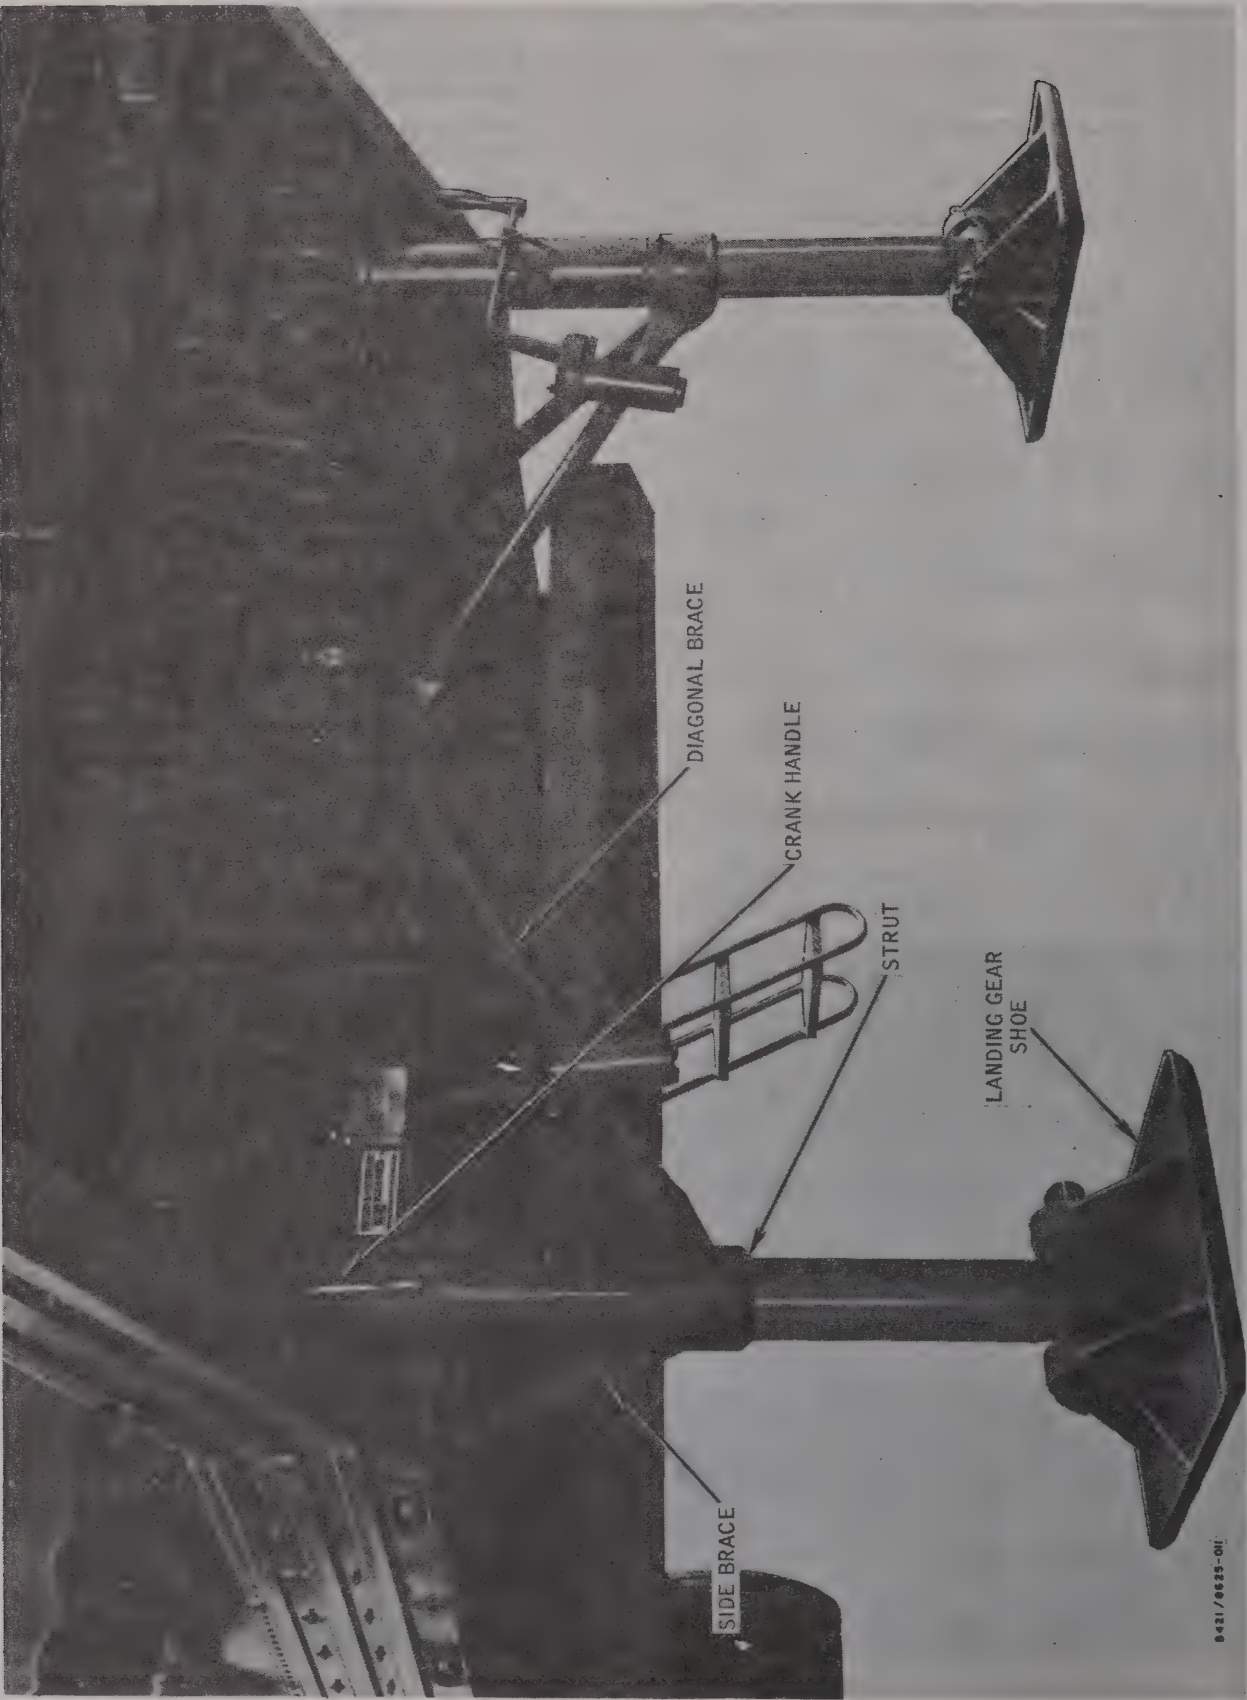
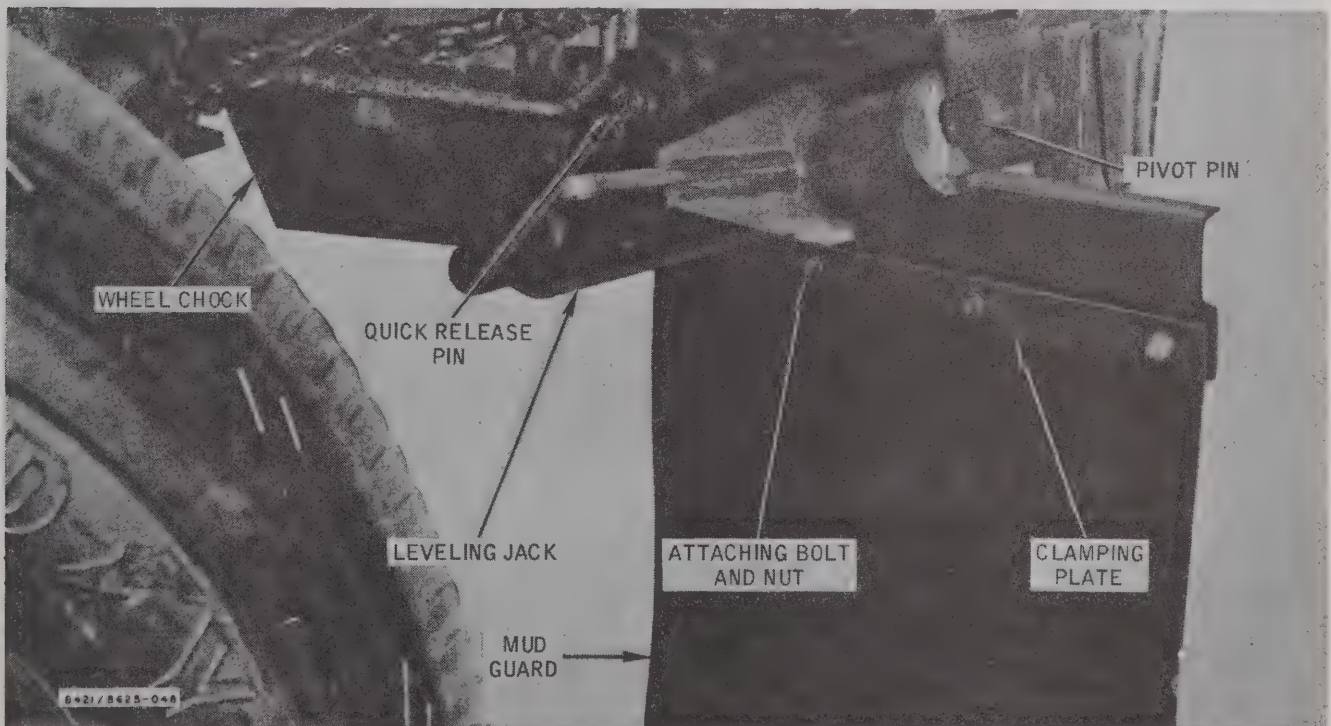

Figure 2-5. Landing Gear Installation
Figure 2-6. Leveling Jack Installation (Stowed Position) and Mud Guard
If the van landing gears and supporting braces have been removed for shipment purposes, install them in the following manner (fig. 2-5):
a. Remove the landing gear crank handle from its support (fig. 2-5).
l. Remove the chain attached quick release pins holding the leveling jack diagonal brace in towards the rear center of the power amplifier van (fig. 2-5 and fig. 2-6).